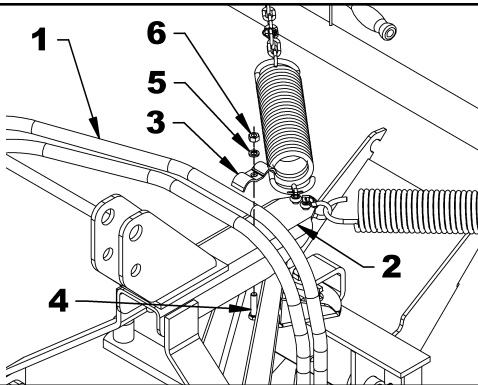

Figure 11A
- Figure 11A, B or C:** As shown, attach the two broom hoses (item 1) on the universal hitch (item 2) with the hose clamp (item 3), 3/8"NC x 1 1/2" lg. hex. bolt (item 4), 3/8" lockwasher (item 5) and 3/8" NC hex. nut (item 6). Before tightening the hose clamp, move the broom in all possible directions (up, down, left and right, etc.) and make sure the hoses have enough loose to not get caught between the mobile parts of the broom and the tractor.